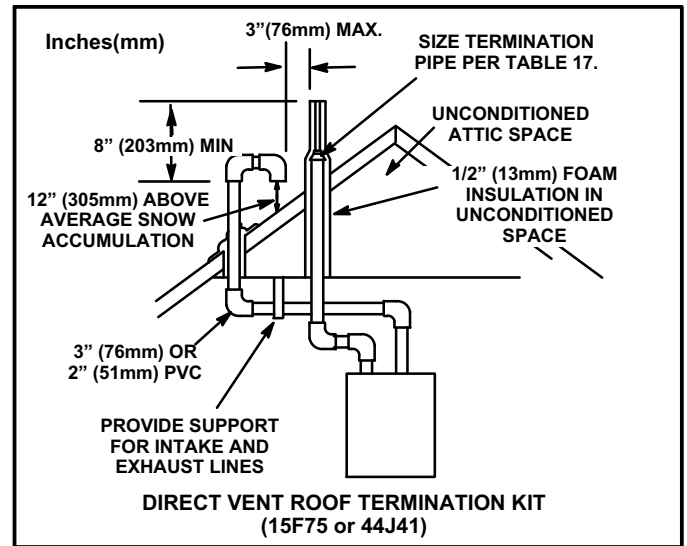

FIGURE 33
Intake and exhaust pipes may be routed either horizontally through an outside wall or vertically through the roof. In attic or closet installations, vertical termination through the roof is preferred. Figures 33 through 40 show typical terminations.
3. On roof terminations, the intake piping should terminate straight down using two 90° elbows (See figure 33).